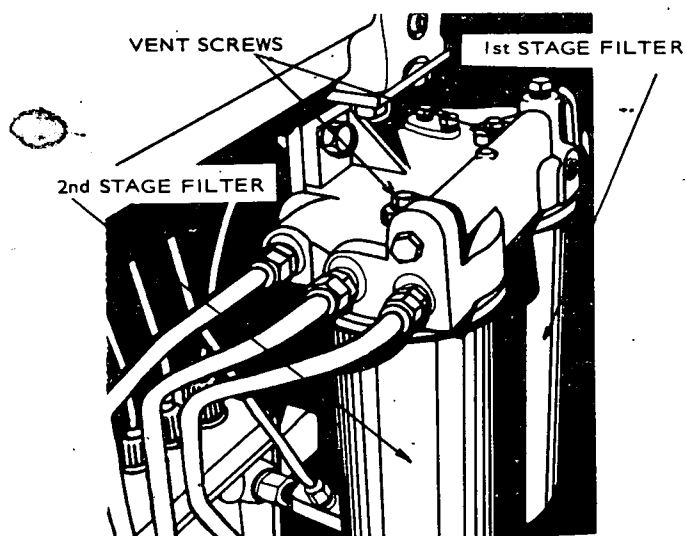

FIGURE 17. FUEL FILTERS
1. Loosen 2nd stage filter vent screw (Figure 17).